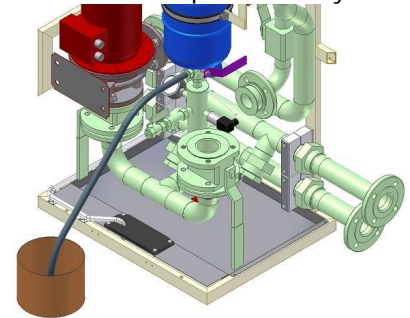

Figure 4.2-5
2. Place an eight (8) litre jar under the valve (if the expansion vessel air nozzle or membrane is broken there might be up to 8 litres in the vessel).
3. Turn the lever (marked violet in Figure 4.2-5) on valve V160 90° so that it points away from you (points towards the back wall). This will close off the primary circuit and therefore only the liquid in the expansion vessel will come out. (There is line mark in the end of the stem, where you can also ensure the right position of the 3-way valve. This mark shows the open flow direction.)